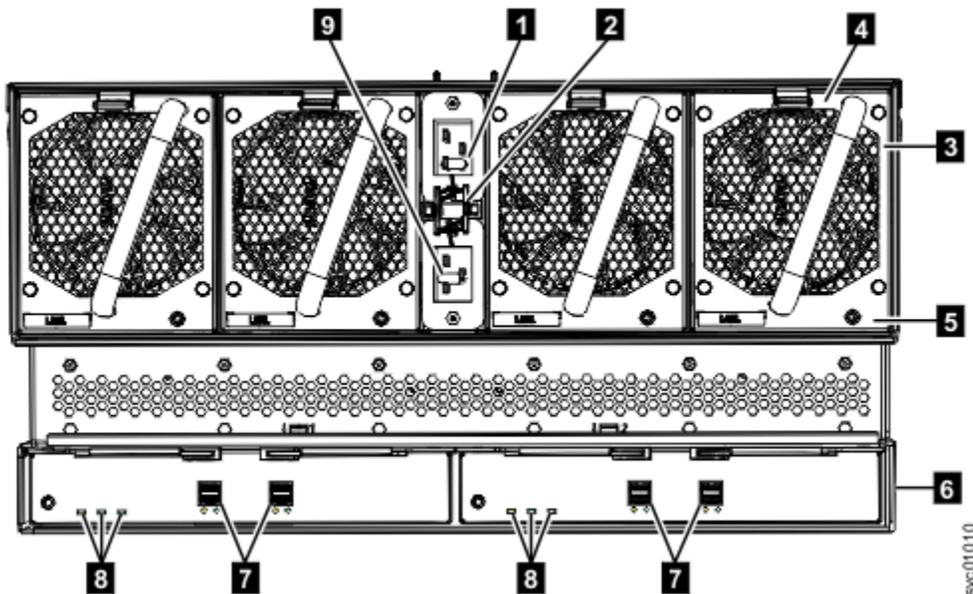
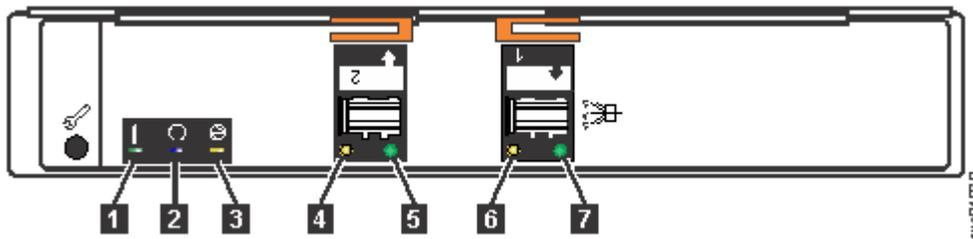

Figure 146. LEDs on the back of the expansion enclosure
Figure 147. LEDs on the back of the expansion canister
Table 19 on page 131 explains the function and status that is indicated by each of the LEDs. The power cords for each PSU are accessible from the rear of the expansion enclosure (1), as shown in Figure 146 on page 134.
Figure 146 on page 134 shows the rear view of a 2145-92F expansion enclosure. LEDs on the rear of the enclosure provide information about each fan module, each expansion canister, and SAS links.
The expansion enclosure has four fans. Each fan has one LED; for example, Figure 146 on page 134 shows the location of the LED (5) for fan number four. When a fan is operating normally, the LED is not lit. If a fault is detected, the amber LED is lit.
As Figure 146 on page 134 also shows, the expansion enclosure contains two expansion canisters. Each expansion canister contains its own set of LEDs, as shown in Figure 147 on page 134. The LEDs provide status information about the expansion canister itself and the SAS connections.